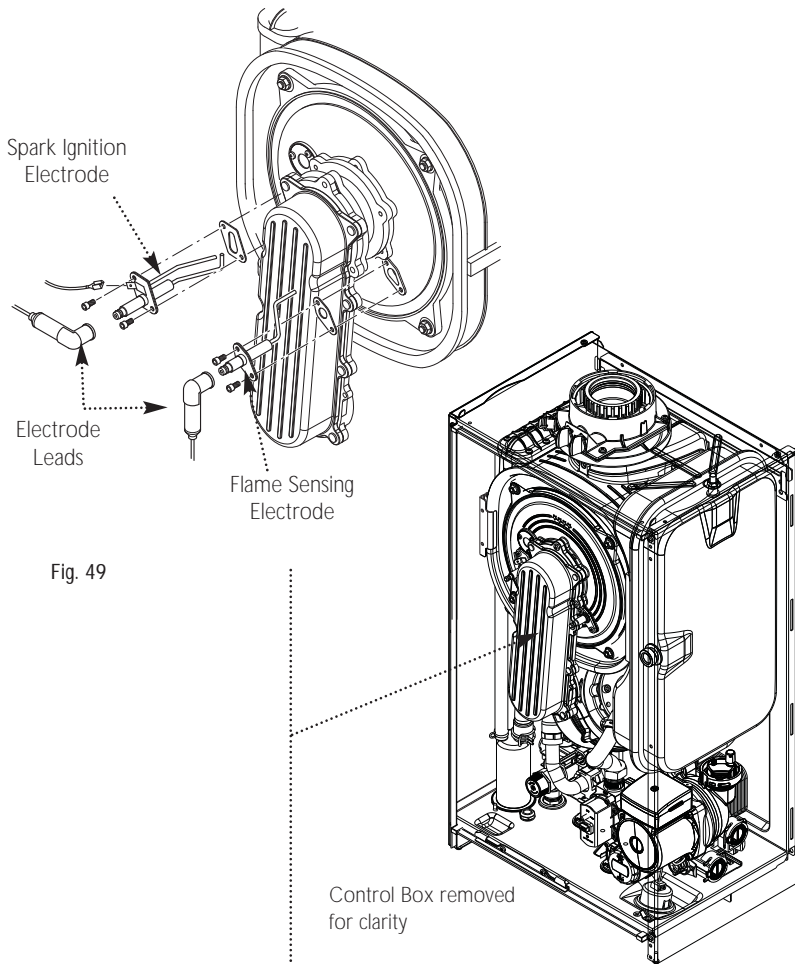

Fig. 49
13.1 Spark Ignition & Flame Sensing Electrodes (Fig. 49)